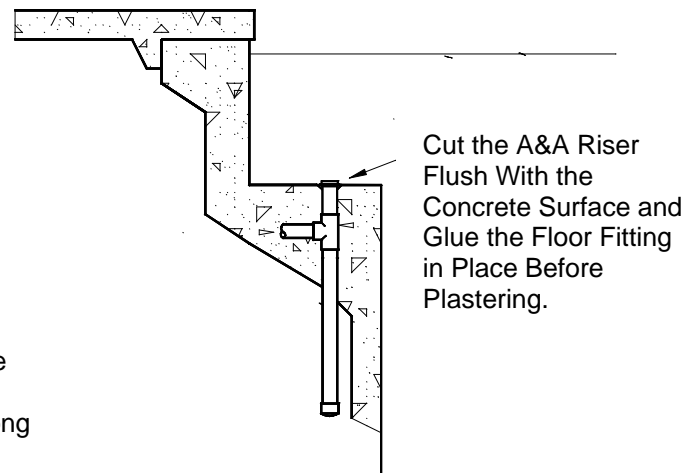

Figure 2
6. Using the same color floor fitting housing as used in the floor cleaning system, glue the fittings in place. (See Figure 2)
3. Remove the fountainhead nozzle (see Figure 2) from the fountainhead tube and cut the tube to the length required for the nozzle to rise within 2" of the pool water surface. Cut the plain end of the tube opposite the end with the inlet fitting.